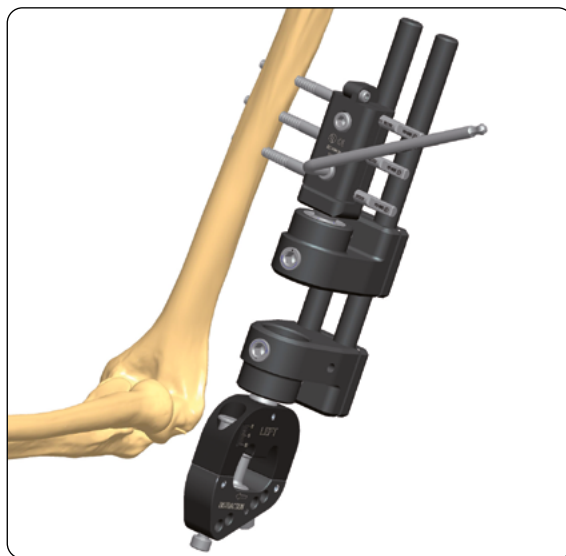

Fig. 6
5) Insert the second screw in the outermost hole using the same technique. If XCaliber Screws are used, cut both screw shafts with the Bone Screw Cutter (91101). Lastly, insert the middle screw if necessary. Remove the Screw Guides and tighten the clamp (**Fig. 6**).